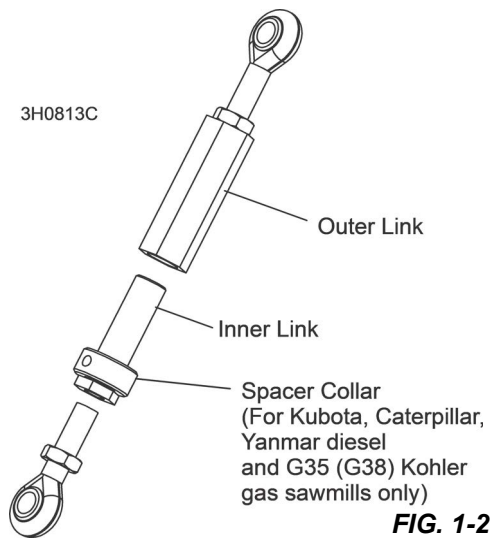

FIG. 1-2
4. Reassemble the inner and outer links and tighten the jam nuts. **See Fig. 1-2.**